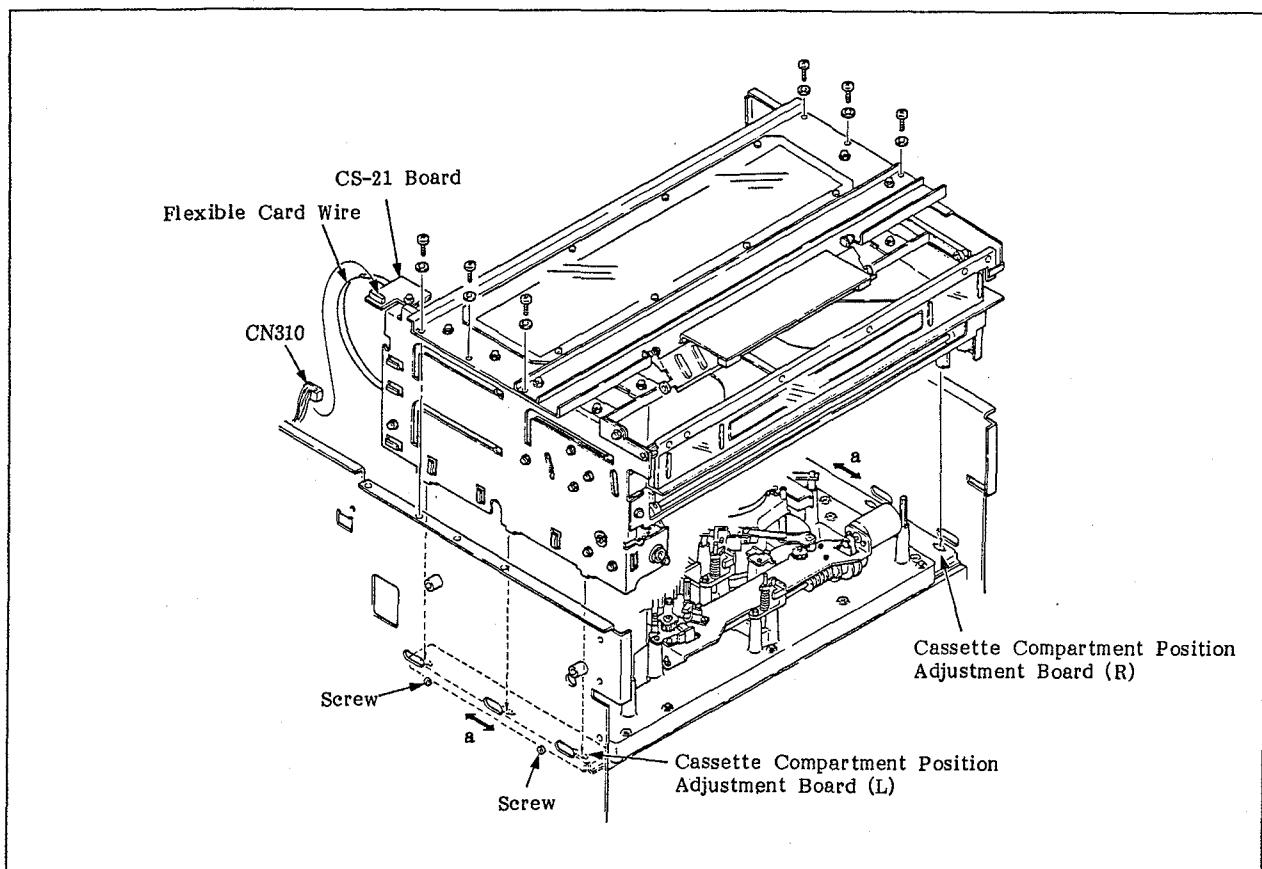

Fig. 6-13 Assembling the Cassette Compartment
2. Insert the right and left side plates' projections (three places each) of the cassette compartment into the holes of the right and left cassette compartment position adjustment boards. Then tighten them securely with six screws (PS3 x 8). (Fig. 6-13)
9. Loosen the four screws (two for each side) that hold the right and left cassette compartment position adjustment boards, shown in Figure 6-13, by two or three turns so that it can be slid into the direction of arrow a.